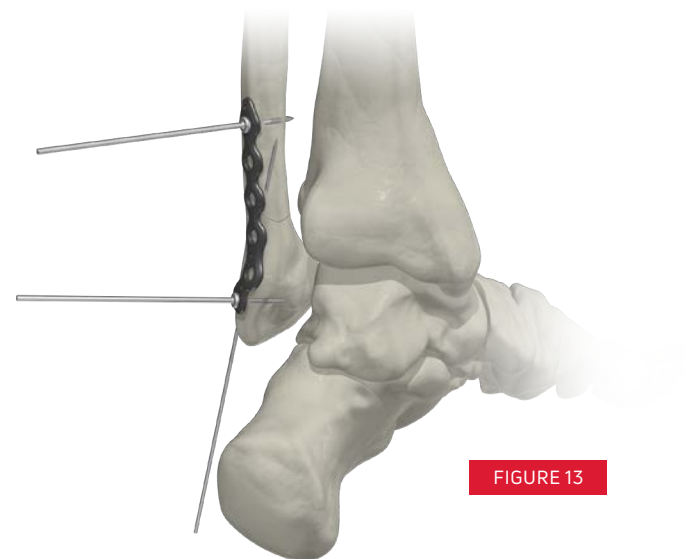

FIGURE 13
2. Select the posterolateral fibula plate appropriate for the fracture type and size. Temporarily fixate the plate to the fibula by placing 1-2 Olive Wires or K-wires in the plate's screw holes or temporary fixation holes, per surgeon preference (FIGURE 13). Confirm plate placement using fluoroscopy.